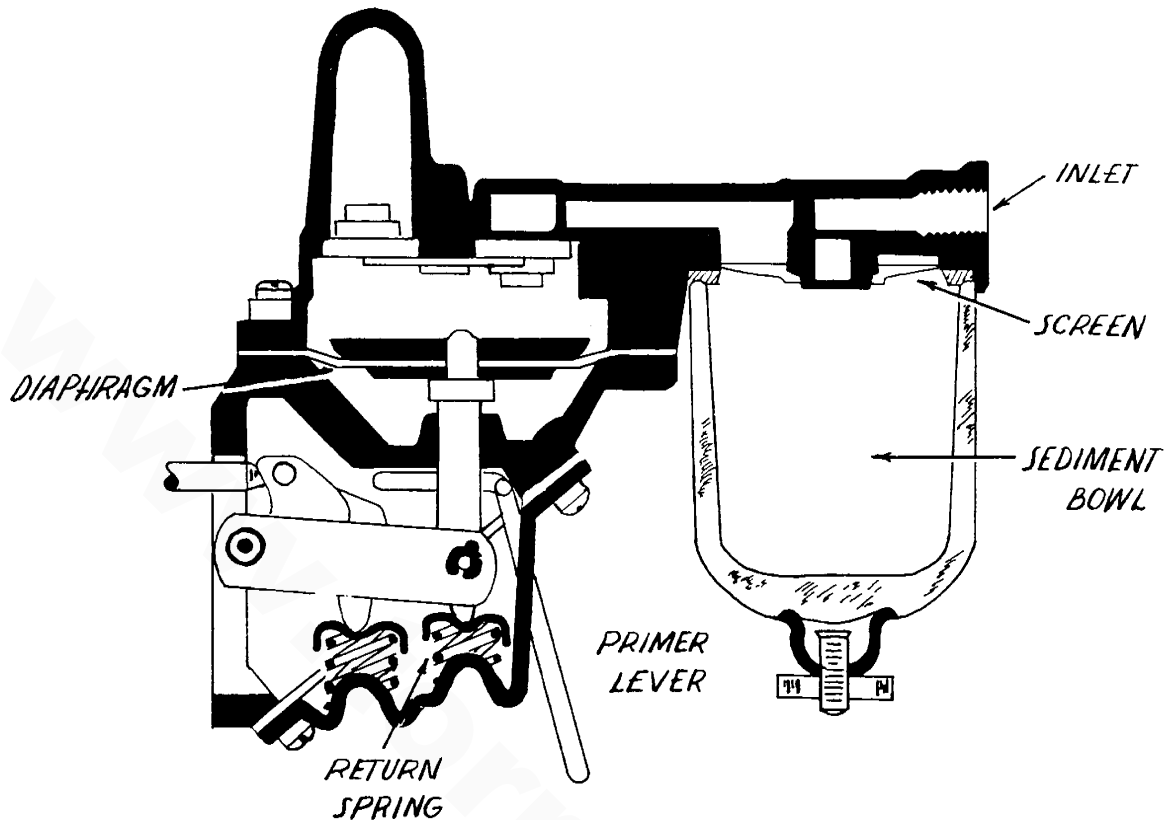

Fig.77 Fuel Pump
14. FUEL PUMP MAINTENANCE (See Fig.77)